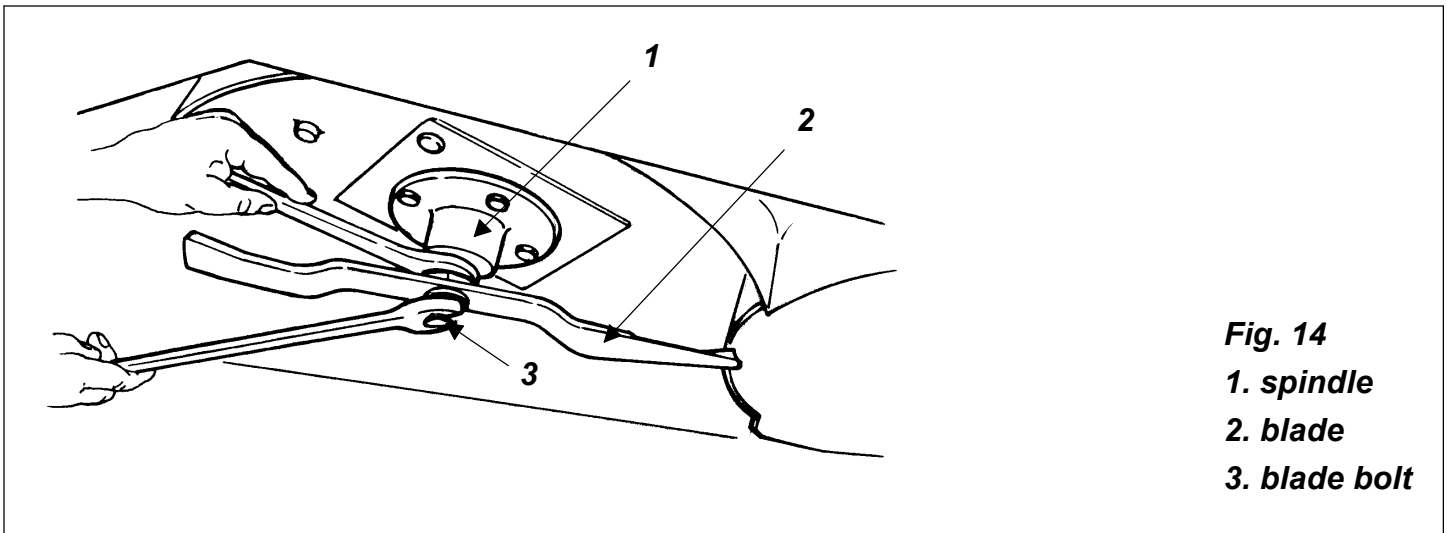

Fig. 14
3. With a wrench, block the spindle and tighten the bolt to 103 lb. ft. (see fig. 14).